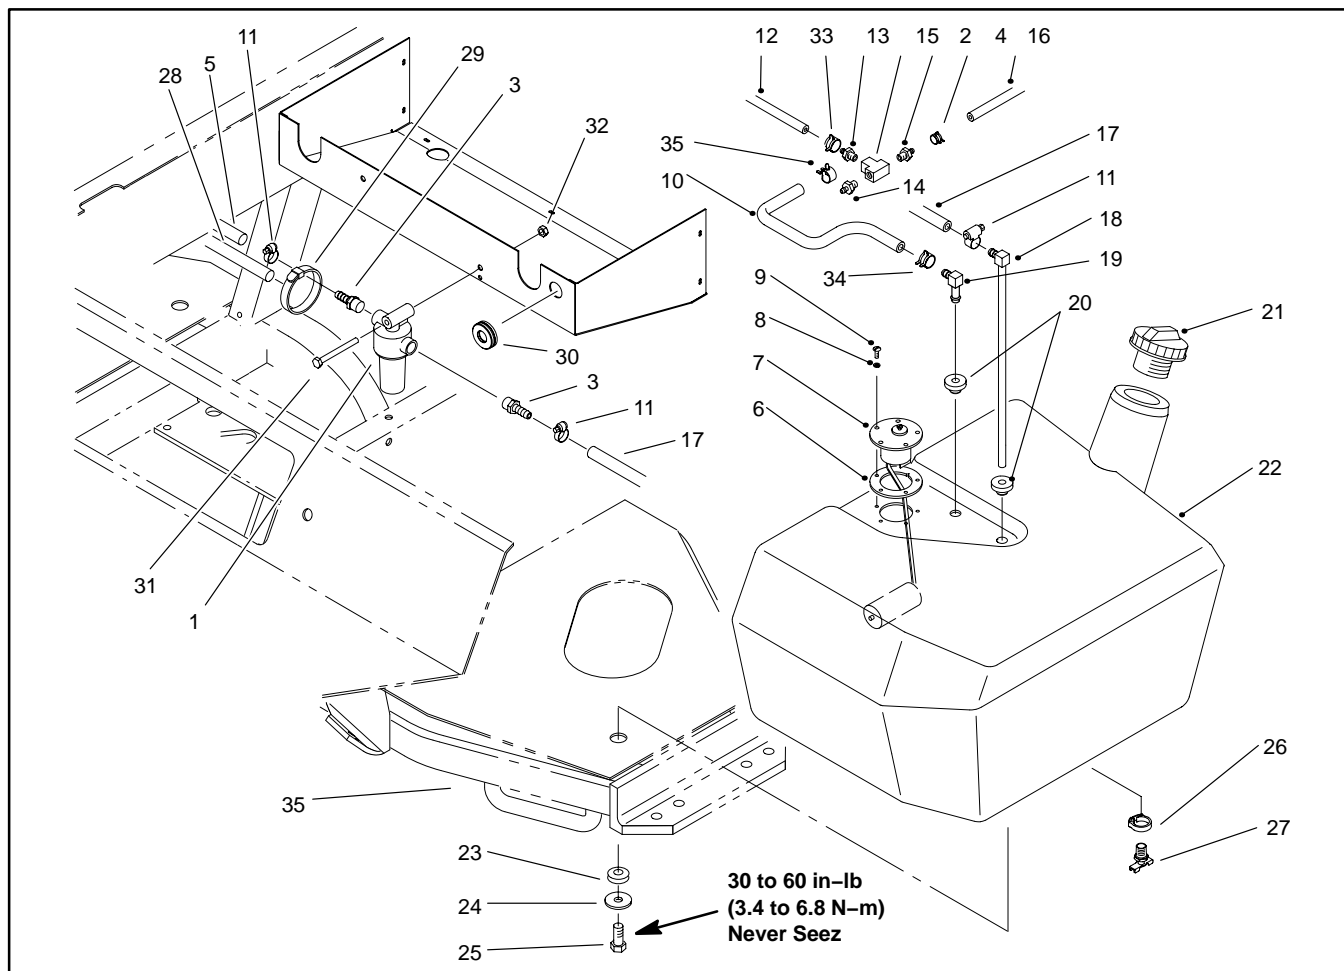

Figure 18
5. Remove fuel tank from the frame using Figure 18 as a guide.
Fuel Tank Installation (Fig. 18)
1. Install fuel tank to the frame using Figure 18 as a guide.